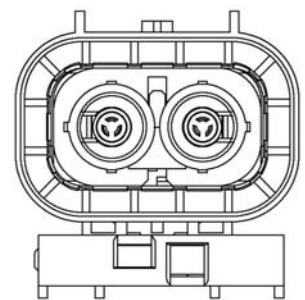

Figure 22
6. Move secondary lock from pre-lock to fully locked position using a small flat-bladed screwdriver. See Figure 22. If the secondary lock does not change positions easily, check to make sure that both terminals are fully installed.